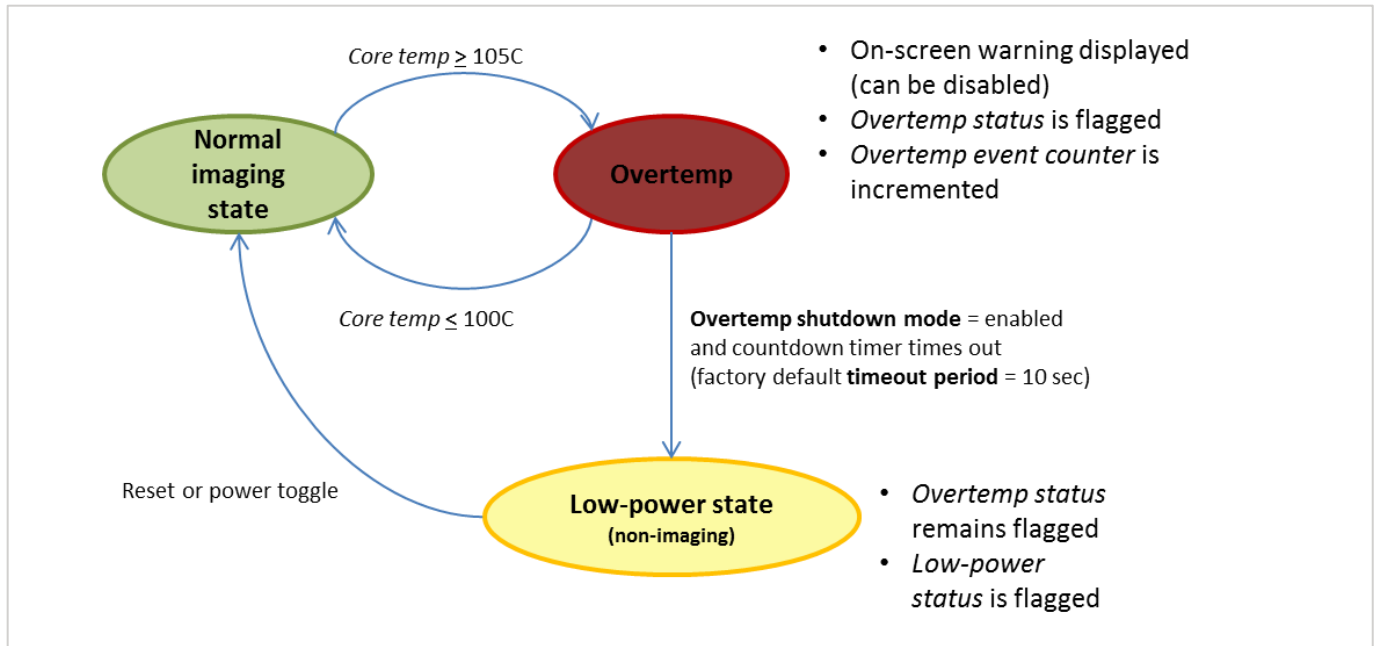

FIGURE 52: BOSON+ OVERTEMP AND LOW-POWER STATES
- **Enabled (factory default):** The camera automatically transitions to a low-power state when the internal core temperature exceeds the maximum safe value. The camera can respond to commands in the low-power state, but the image pipeline is deliberately disabled to reduce power dissipation, thereby reducing core temperature. As illustrated in Figure 52, the transition between the normal imaging state and the low-power state is via a temporary “overtemp” state, as described below.